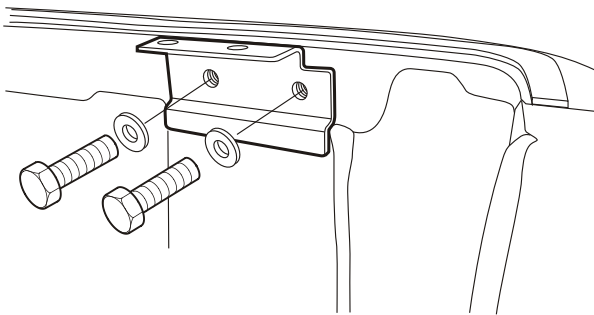

Figure 10
17. Use 4 M8x25 bolts and flat washers to attach the rear canopy fixing brackets to the existing threaded holes at the rear of the tray. Refer to figure 10.